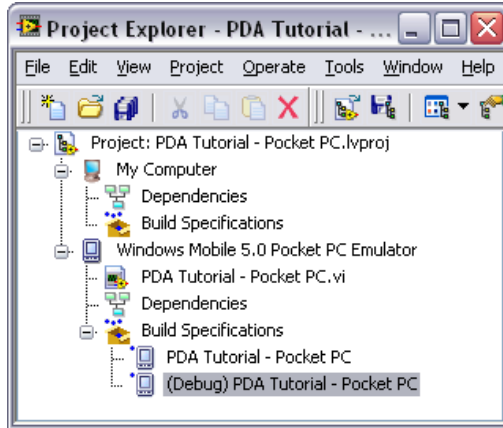

Figure 11. Two PDA Build Specifications in the Project Explorer Window
7. Click the **OK** button. The build specification you just created appears in the **Project Explorer** window as shown in Figure 11.
1. Right-click the build specification for the PDA VI you want to build and deploy, which is **(Debug) PDA Tutorial - Pocket PC** in Figure 11, and select **Debug** from the shortcut menu. Save any VIs if prompted.